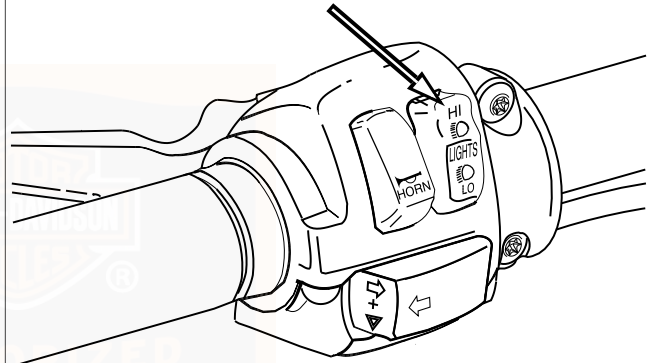

Figure 67. Headlamp Switch High Beam Setting
7. See Figure 67. Turn ignition switch ON. Set handlebar headlamp switch to HIGH beam position.